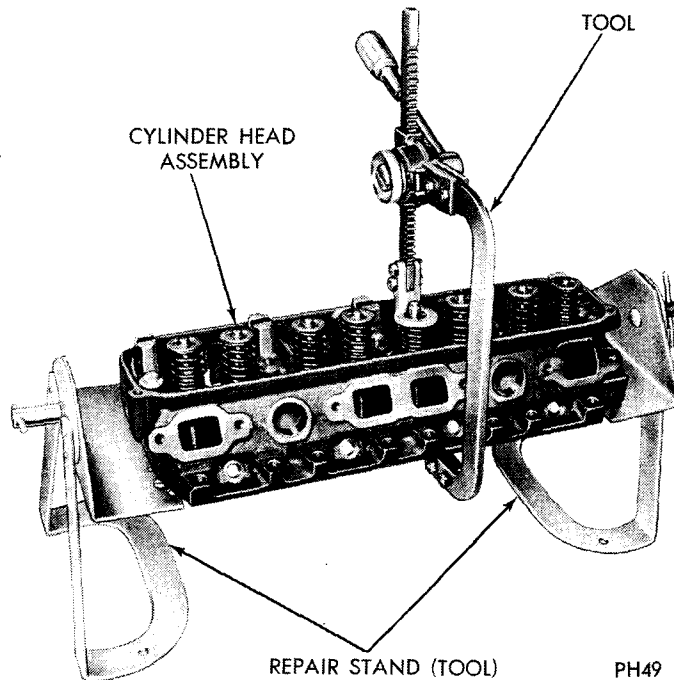

Fig. 7—Compressing Valve Spring
- (1) With cylinder head removed, compress valve springs, using Tool C-3422A, (Fig. 7).
- (2) Remove valve retaining locks, valve spring retainers, valve stem cup seals and valve springs.